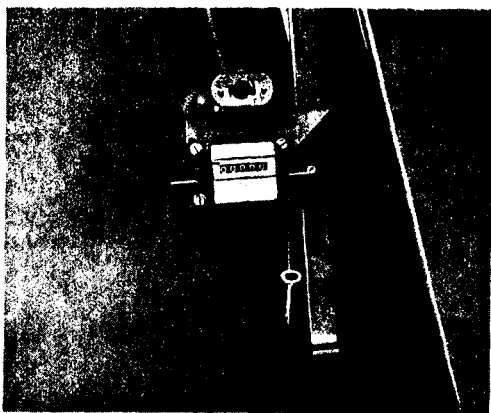

Fig. 7
To keep correct count on ejected bales, counter 13 must be set to zero with key 14 (fig. 7). Therefore sideguard must be opened.